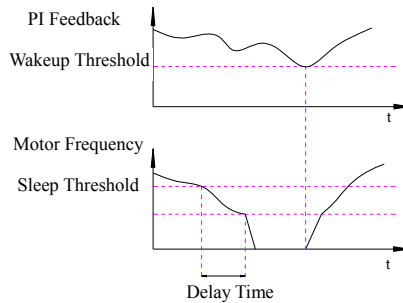

Fig. 5-7-3 Sleep & Wakeup
- ◆ The pressure feedback should be reduced to the “wakeup” threshold to switch to the “wakeup” state. Then, the variable pump will be started (as showed in Fig. 5-7-3). The wakeup threshold setting range corresponds to the analog PID feedback percentage.